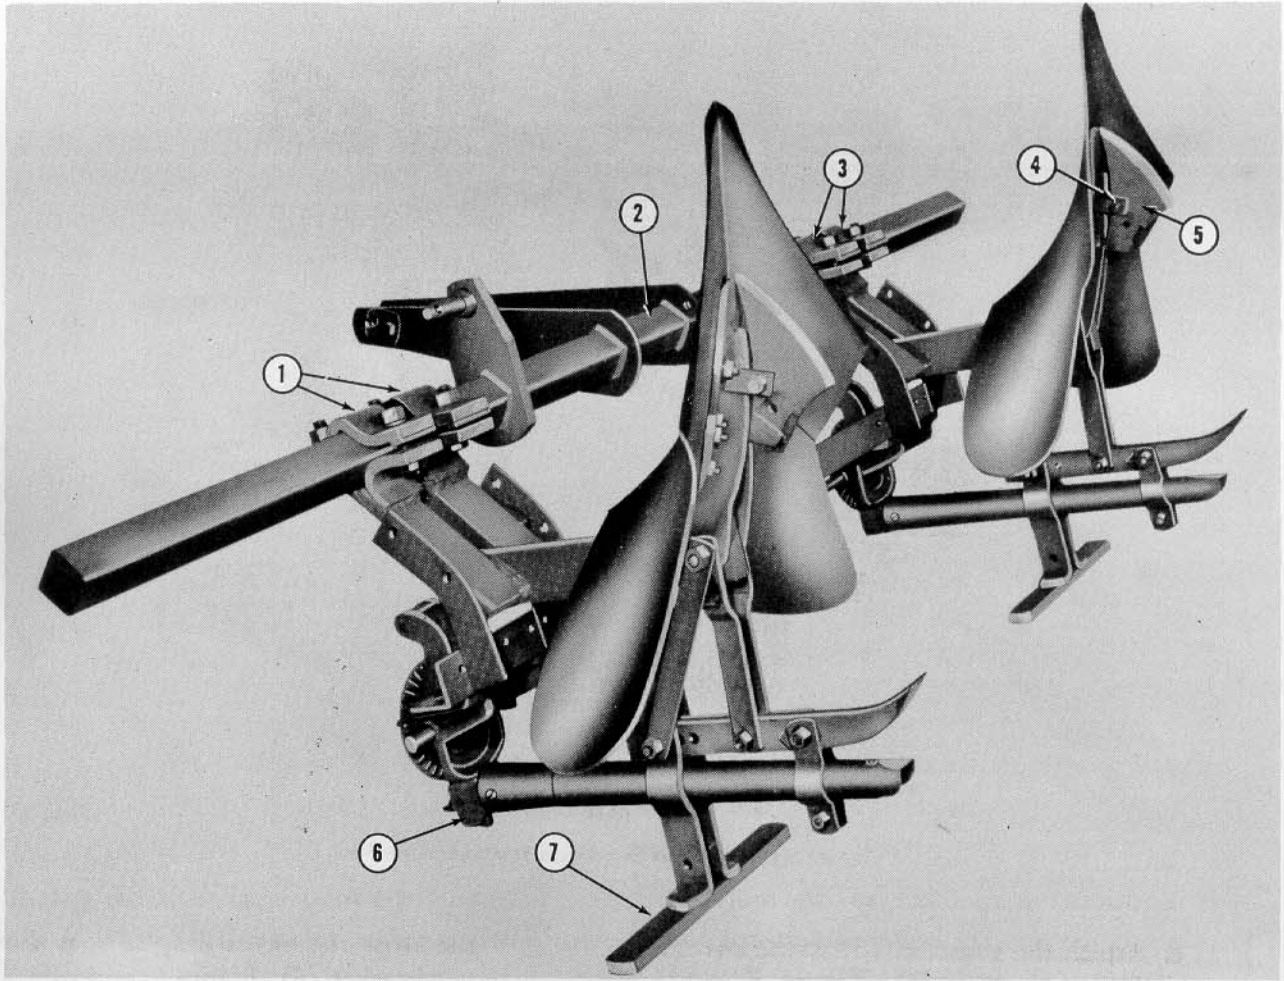

Figure 7
3. Tilt the implement backward as shown in Figure 7, until it rests on the seed outlets (6) and the disc coverer supports (7) to facilitate attaching the tool bar.
- a. Position the tool bar (2) as shown in Figure 7 and replace clamps (1) and (3), loosely.
b. Position the tool bar so the tool bar struts are *exactly centered between the clamps (1) and (3)*, Figure 7, and tighten the clamps securely.
c. Bolt one root cutter (5) to the bracket (4) of each standard bottom as shown in Figure 7.